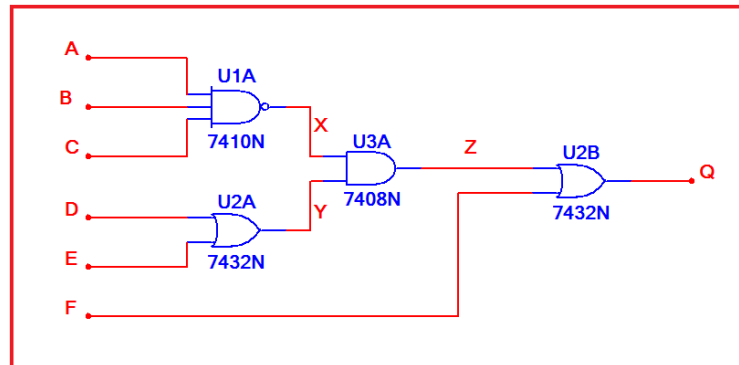

Figure 1.1
- b) Describe the ‘single stuck at’ fault modelling process for the circuit shown in Figure 1.1
- c) Table 1.1 relates the ‘minimum number of test vectors’ required to test the circuit shown in Figure 1.1 above which has been reduced from 64 tests to 7.